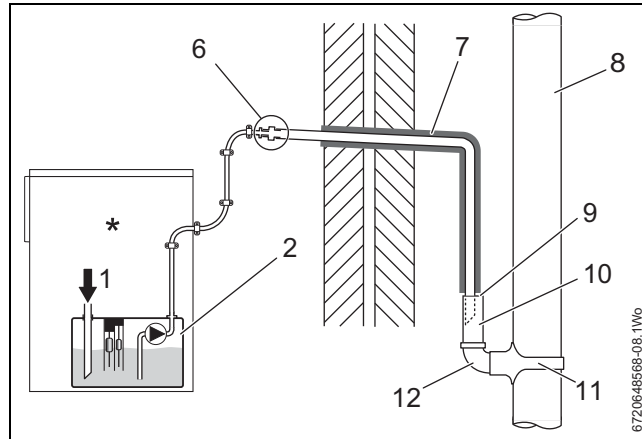

Fig. 9 Disposal into a rainwater down pipe
- Refer to figure 9 when a rain water down pipe is used to dispose of condensate.